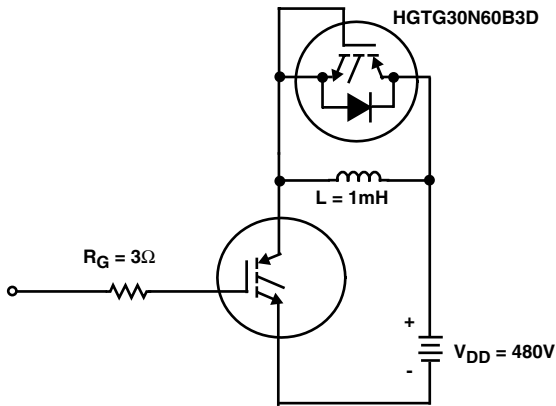

FIGURE 17. INDUCTIVE SWITCHING TEST CIRCUIT
| Turn-On Energy (Note 4) | E_{ON1} | Test Circuit (Figure 17) | - | 500 | - | μJ | |
| Current Turn-On Delay Time | $t_{d(ON)I}$ | IGBT and Diode at $T_J = 150^\circ\text{C}$ $I_{CE} = I_{C110}$ $V_{CE} = 0.8 V_{CES}$ $V_{GE} = 15\text{V}$ $R_G = 3\Omega$ $L = 1\text{mH}$ Test Circuit (Figure 17) | - | 32 | - | ns |
- Values for two Turn-On loss conditions are shown for the convenience of the circuit designer. E_{ON1} is the turn-on loss of the IGBT only. E_{ON2} is the turn-on loss when a typical diode is used in the test circuit and the diode is at the same T_J as the IGBT. The diode type is specified in Figure 17.